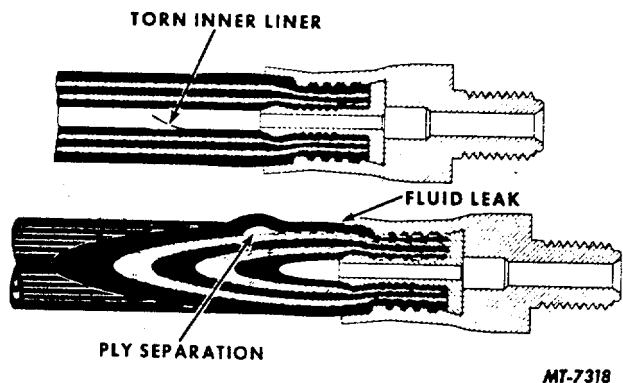

Fig. 1. Flexible Hose Damage
4. Carefully check for incomplete ruptures indicated by a bubble between the plies of the flexible hose or a torn inner line (Fig. 1).